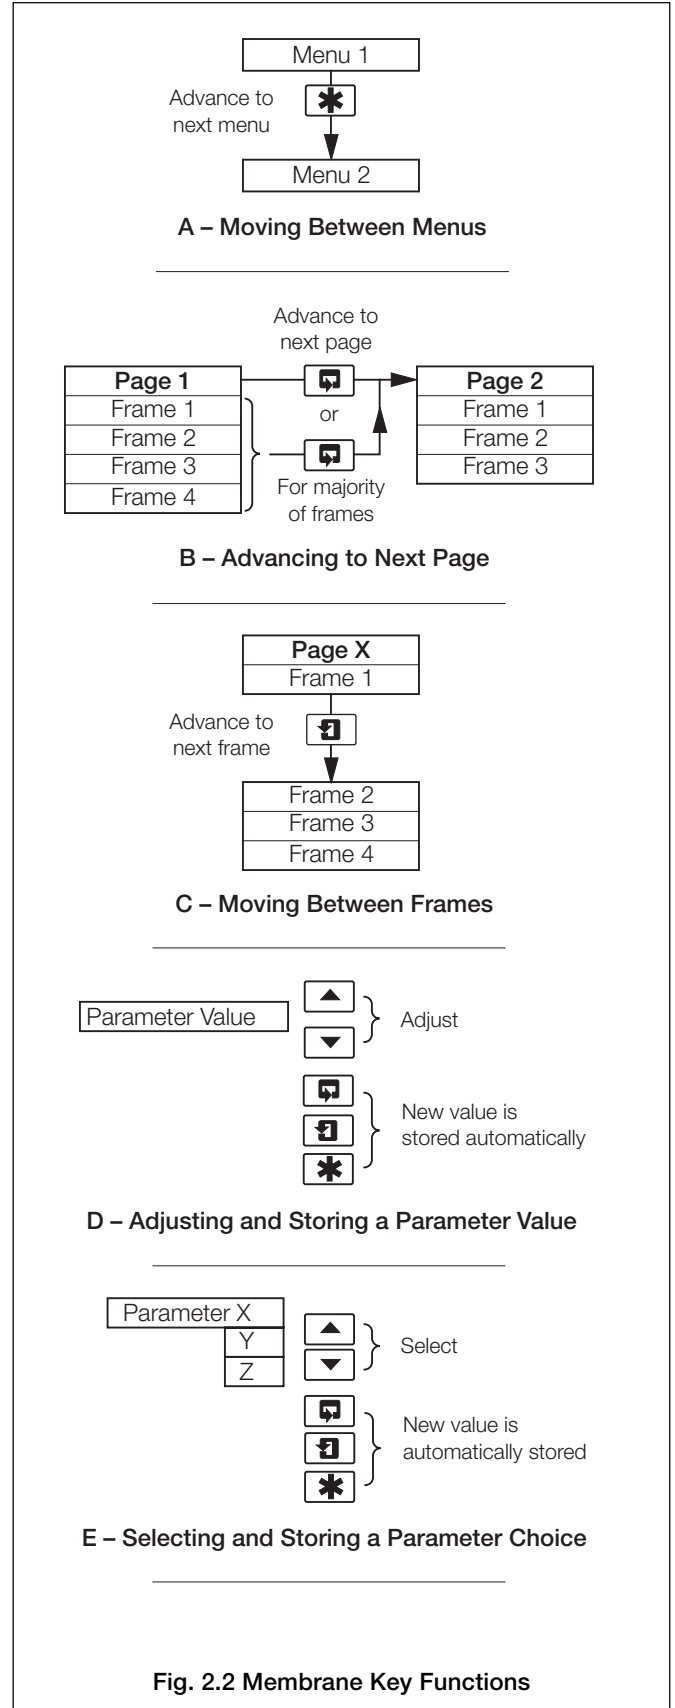

Fig. 2.2 Membrane Key Functions
2.2.1 Membrane Key Functions – Fig. 2.2